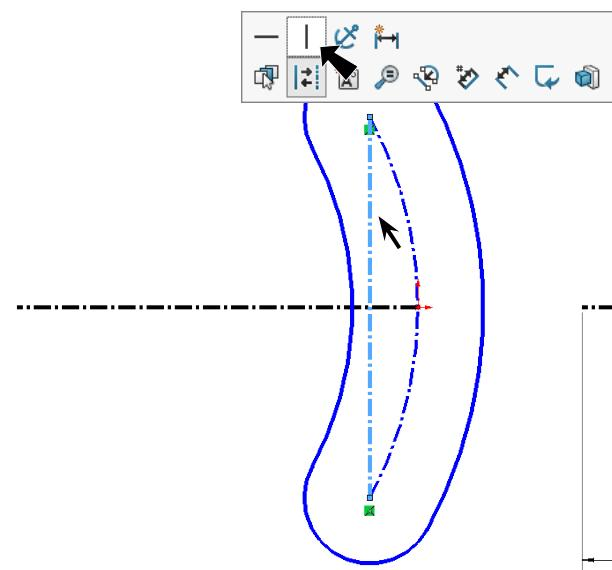

Fig. 6
Step 10. Click centerline at slot centerarc endpoints and click **Make Vertical**  on the context toolbar, Fig. 6.
Step 11. Click **Smart Dimension**  (S) on the Sketch toolbar.